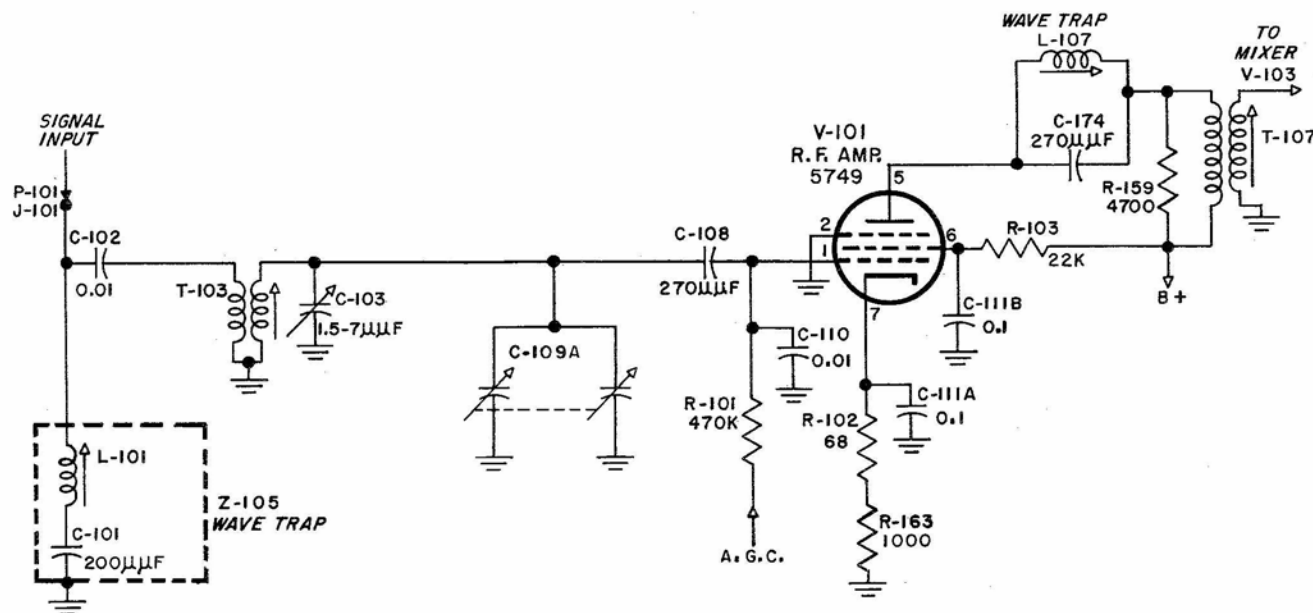

Figure 2-2. R.F. Amplifier V-101, Simplified Schematic Diagram
b. ANTENNA INPUT CIRCUIT AND R.F. AMPLIFIER V-101. (See Figures 2-2 and 7-13.)—The incoming signal from the antenna enters the receiver circuits through the antenna input connector, J-101. Each of the four bands has its own tuned circuit preceding R.F. amplifier V-101. Switch section S-101A of the Band Selector switch connects the input signal to the tuned circuit of the desired band. This switch has three main functions:
- (1) To connect the input signal to the transformer primary of the tuned circuit of the desired band.
- (2) To short out the primaries of the unused tuned circuits.
- (3) For the BC and SW1 bands only, to connect the 455-kilocycle wave trap, Z-105, in parallel with the signal input circuits.
The simplified schematic diagram, Figure 2-2, traces the path of the signal when the Band Selector